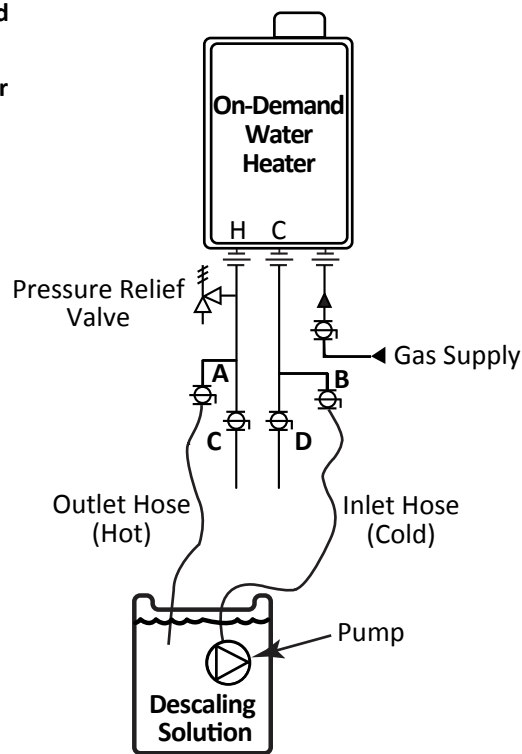

Figure 27.
- Washing machine hoses (2)
- Water heater isolation valve kits, installed on both the cold water inlet and hot water outlet of the water heater (See Figure 27.)